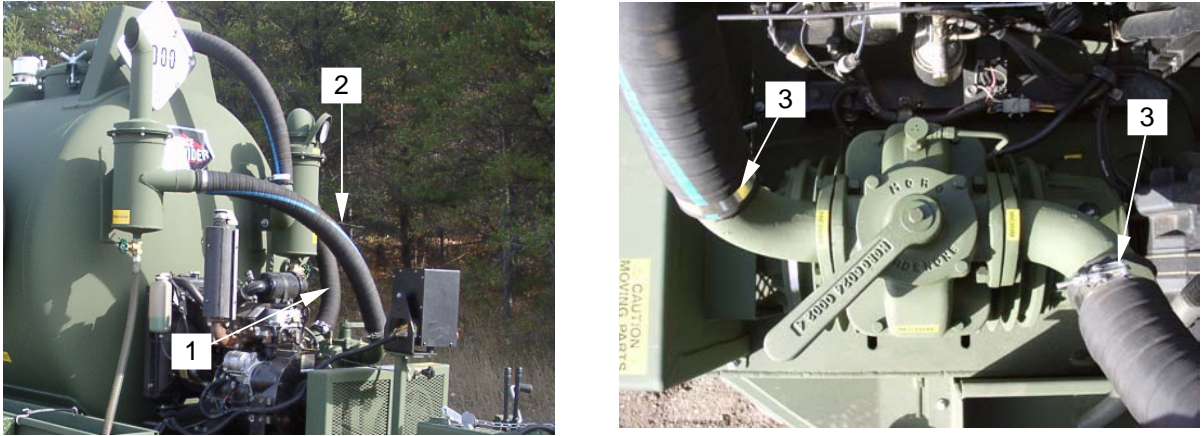

Figure 23. Removing Air Hoses
10. Loosen hose clamps on vacuum pump hose (**figure 23, item 1**) and breather hose (**figure 23, item 2**) at vacuum pump ports (**figure 23, item 3**), retain clamps. Remove hoses.